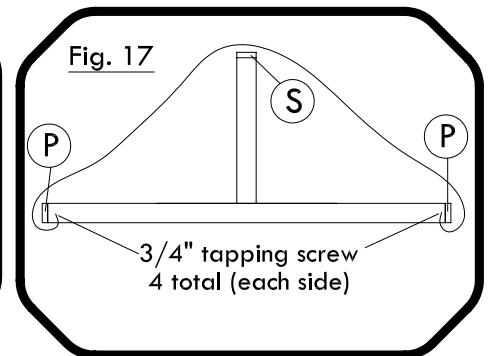

Fig. 17
Step 3: Drape Tarp over Tarp Support 'S' and Tarp End Caps 'P'. Attach one side of tarp to inside of one Tarp End Cap 'P' with (4) 3/4" tapping screws. Pull other side of Tarp tight and attach to other Tarp End Cap 'P' with 3/4" tapping screws. (see Fig 17 & 18)